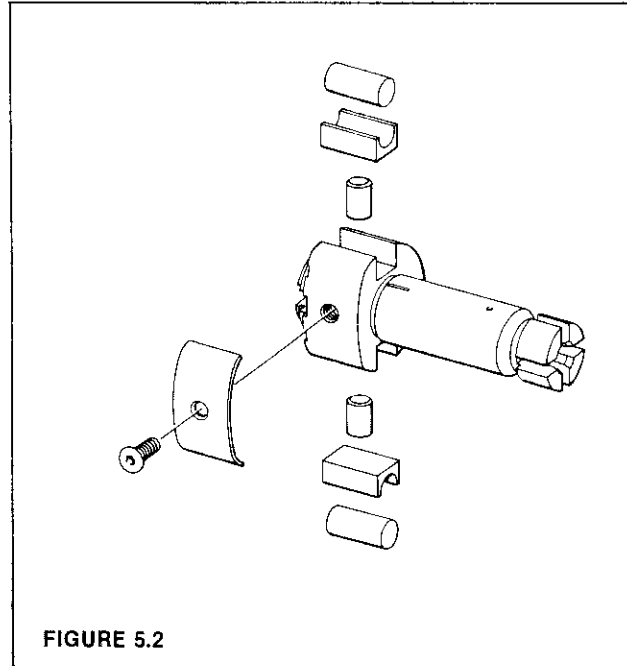

FIGURE 5.2
STEP 2 Remove the rotor from the holding fixture and submerge it in clean calibrating oil. Install the pumping plungers and check them for freedom of movement. Assemble the leaf spring, leaf spring adjusting screw and shim (if used) to the rotor (Figure 5.2).